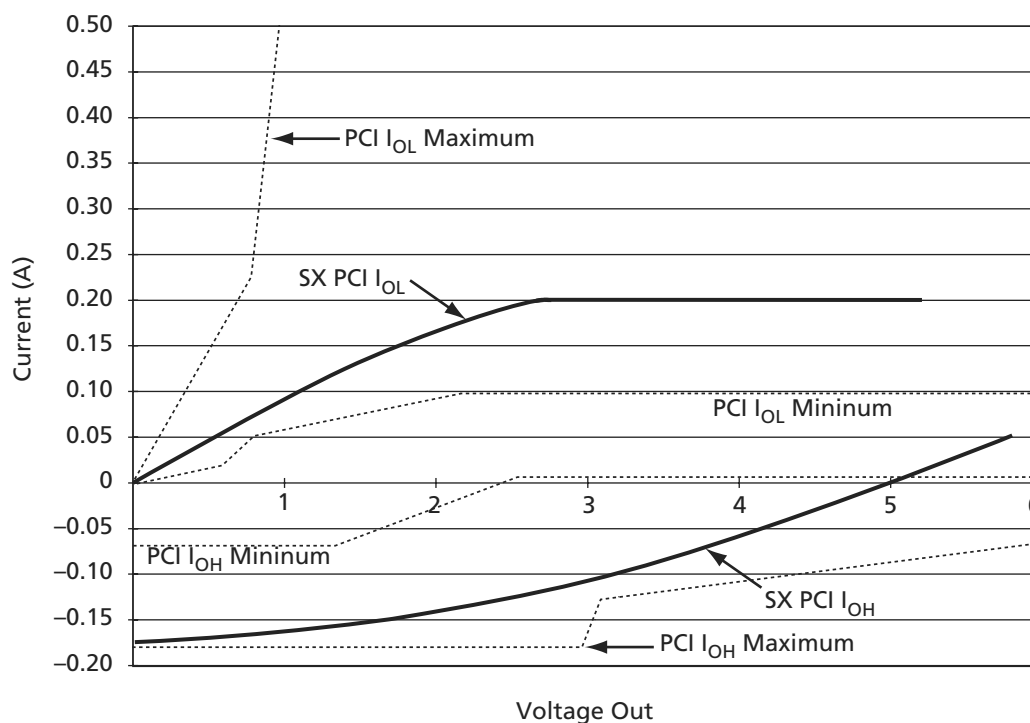

Figure 1-9 • **5.0 V PCI Curve for A54SX16P Device**
1. Refer to the *VI* curves in Figure 1-9 on page 1-11. Switching current characteristics for REQ# and GNT# are permitted to be one half of that specified here; i.e., half-size output drivers may be used on these signals. This specification does not apply to CLK and RST#, which are system outputs. "Switching Current High" specifications are not relevant to SERR#, INTA#, INTB#, INTC#, and INTD#, which are open drain outputs.
3. Maximum current requirements must be met as drivers pull beyond the last step voltage. Equations defining these maxima (A and B) are provided with the respective diagrams in Figure 1-9 on page 1-11. The equation defined maxima should be met by design. In order to facilitate component testing, a maximum current test point is defined for each side of the output driver.
Figure 1-9 shows the 5.0 V PCI V/I curve and the minimum and maximum PCI drive characteristics of the A54SX16P device.